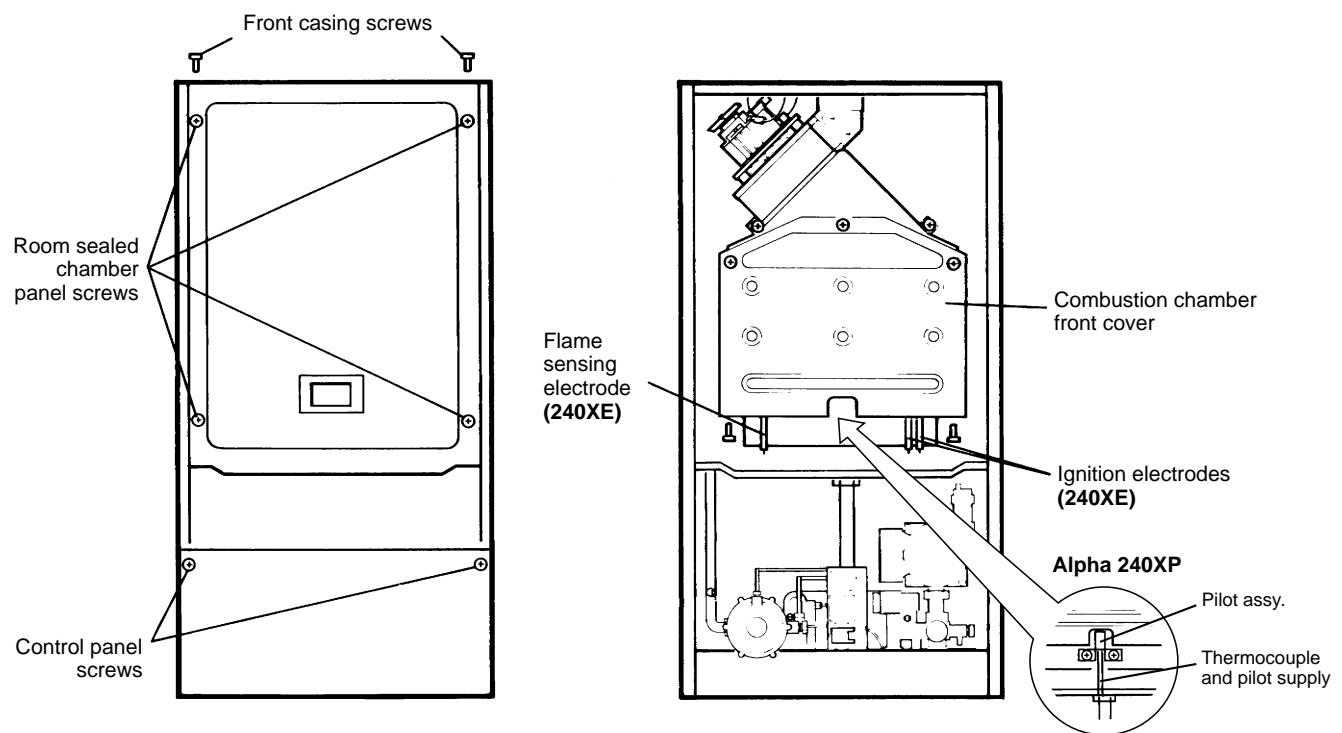

Fig. 18
7.2 PREPARE FOR SERVICING - Fig. 18
Alpha 240XP - Check the condition of the pilot assembly, removing any carbon deposits from the thermocouple tip. Disconnect the pilot supply from the pilot burner, carefully withdraw it and remove the injector. Check the condition of the pilot injector and clean if necessary. Refit the pilot injector over the pilot supply and reconnect it to the pilot burner (see Fig. 18).